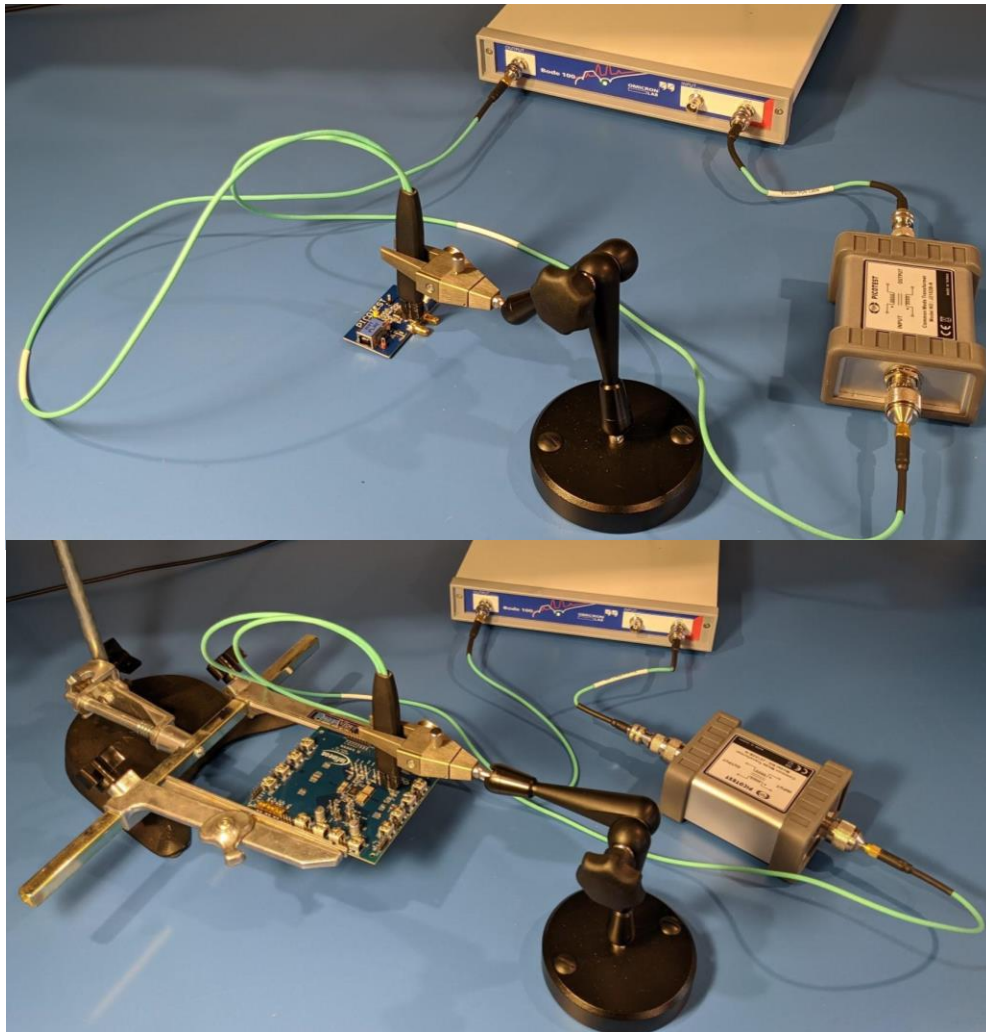

Fig. 5 - Measurement Setup after Calibration with DUTs.
2-port probe users generally own a probe station, however the commitment to setting up the camera, microscope, calibration, etc. is a much bigger commitment than sometimes necessary for simple VRM impedance or even stability measurements. This is where the P2102A browser probe provides a great option on-the-go, as depicted by Figure 5.
After powering on the Bode 100, with cables connected for calibration as shown in Figure 5, follow the steps below to calibrate your measurement setup prior to making measurements on your DUT.
Step 6: Ensure cables and probe are connected as shown in Figures 5 and 12 for **Open** calibration
Step 8: Ensure cables and probe are connected as shown in Figures 5 and 12 for **Short** calibration
Step 10: Ensure cables and probe are connected as shown in Figures 5 and 12 for **Load** calibration
Step 6: Ensure cables and probe are connected as shown in Figures 5 and 13 for **Thru calibration**